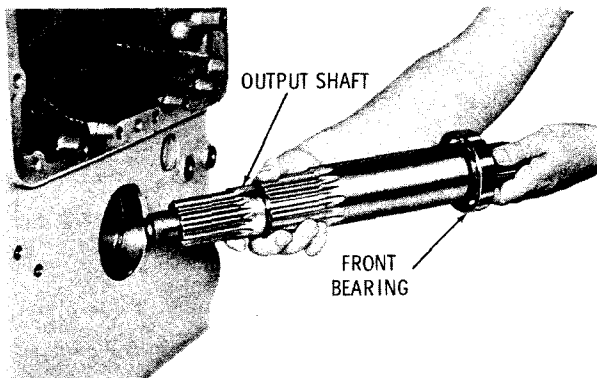

Fig. 5-36. Removing one-piece output shaft
(4) Remove the output shaft and front bearing as an assembly (fig. 5-36). Remove the front bearing from the output shaft.